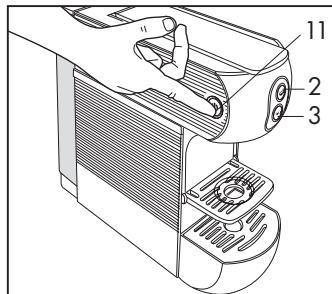

Fig. 4
- Switch on the machine with the main switch (11). The machine is on when the main switch lights up. (**Fig.4**)